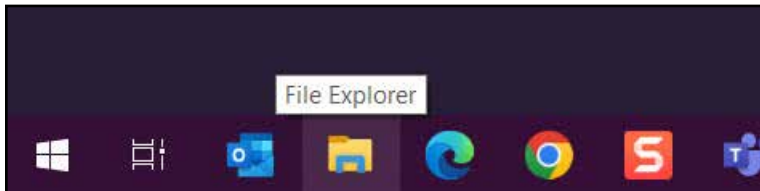

Figure 2
2. Open "File Explorer" (Figure 2).